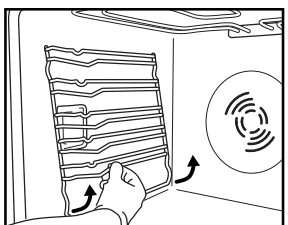

Fig. 4
1. Remove the side accessory holder grilles (Fig. 4).
2. Remove the side accessory holder grilles, if present (Fig. 4).